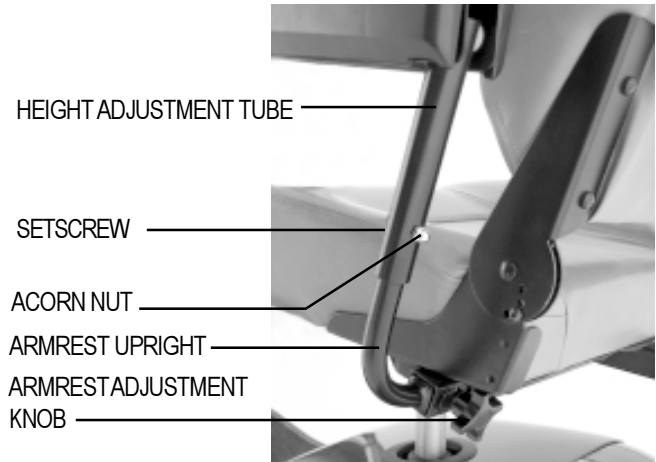

FIGURE 16. ARMREST HEIGHT ADJUSTMENT
1. Loosen the armrest adjustment knobs at the back of the seat frame. See figure 16.
Refer to figure 16 when adjusting the armrest height.
1. Loosen the setscrew on the side of the height adjustment tube with the 1/8-in. hex key. See figure 16.